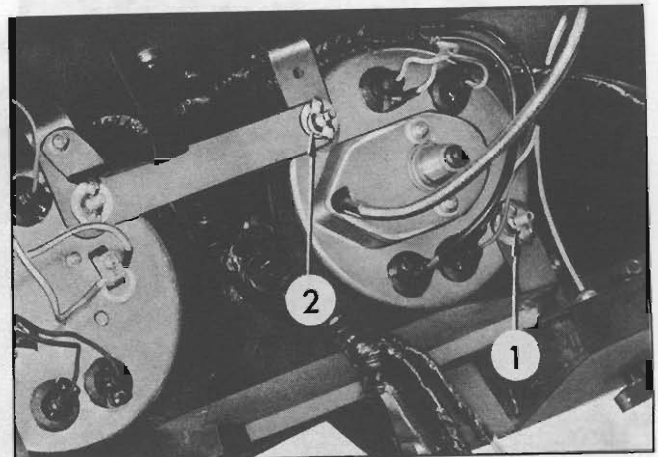

Fig. BE-12 Removing speedometer
Loosen the wing nuts on the meter brackets [① and ② in Figure BE-12 ] on the upper and lower sides of the reverse side of the speedometer, and withdraw the speedometer from the instrument panel.